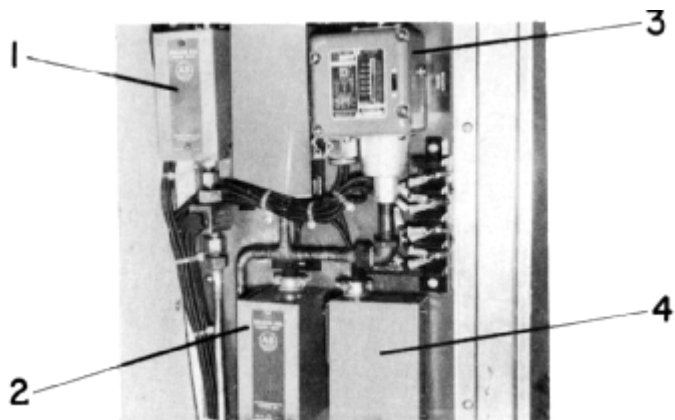

FIGURE 19
7. Alertor Pressure Switch (4) Fig. 19:
Anytime twenty-five pounds or more of brake cylinder pressure is developed, an Alertor pressure switch (4) Fig. 19 will be actuated to nullify the Alertor. The Alertor will again resume its operation when brake cylinder pressure is released. During an Alertor emergency brake application, Dynamic Brakes are nullified. Traction power is cut off when brake cylinder pressure reaches 25 PSI.